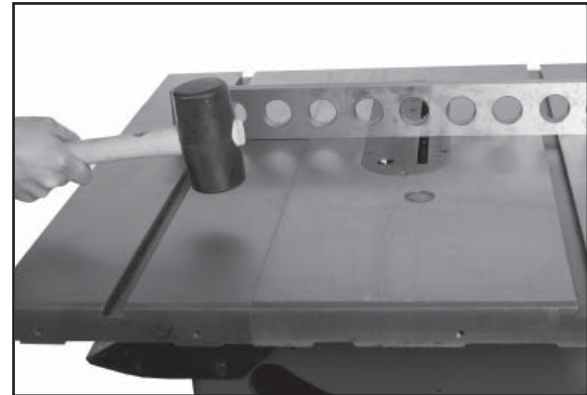

Figure 3
3. Level table wing with the saw table across its entire width, using a straight edge and hammer with rubber hammer (or block of wood). Figure 3.